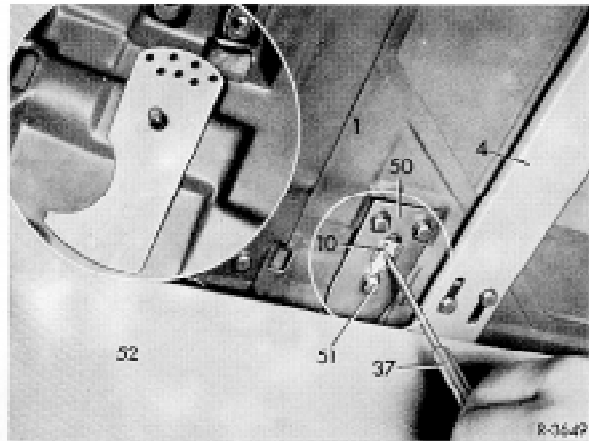

Fig. 2
- 3 Remove sliding roof headlining (refer to 77.0-100, item 1).
- 5 Loosen fastening nut (51) on angle bracket (50) (Fig. 2).